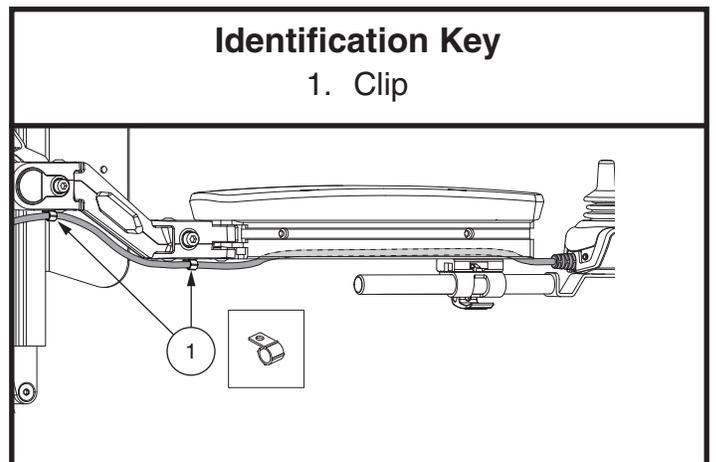

Figure 21. Cable Routing
6. Route the controller harness to the back of the power base and secure it with clips. **See figure 21.**